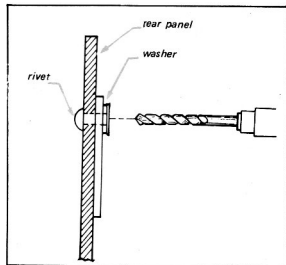

Fig. 2-10 Rivet replacement
- (a) Bore out the rivet with a drill bit slightly larger in diameter than the rivet. See Fig. 2-10.